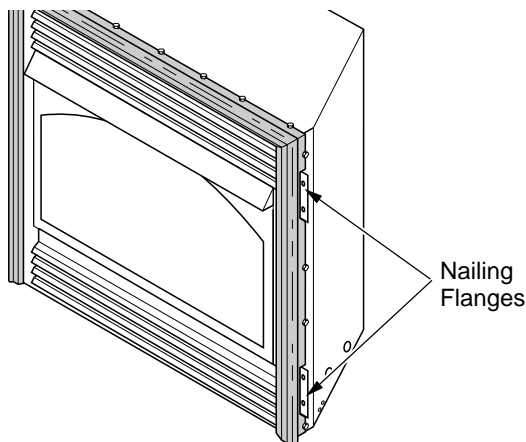

Figure 11 - Location of Nailing Flanges
7. Break off nailing flanges (see Figure 11, page 9) with hammer or pliers.